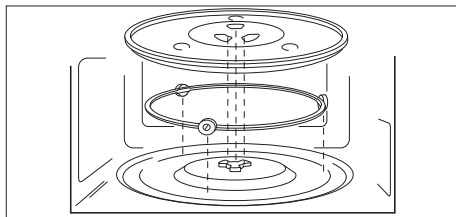

Fig. 5 – Inserting the glass turntable
- ▶ Place the roller ring in the recess in the cooking compartment and then place the glass turntable centrally on the drive shaft (see “**Fig. 5 – Inserting the glass turntable**”) so that the webs of the glass turntable lie between the wings of the drive shaft.